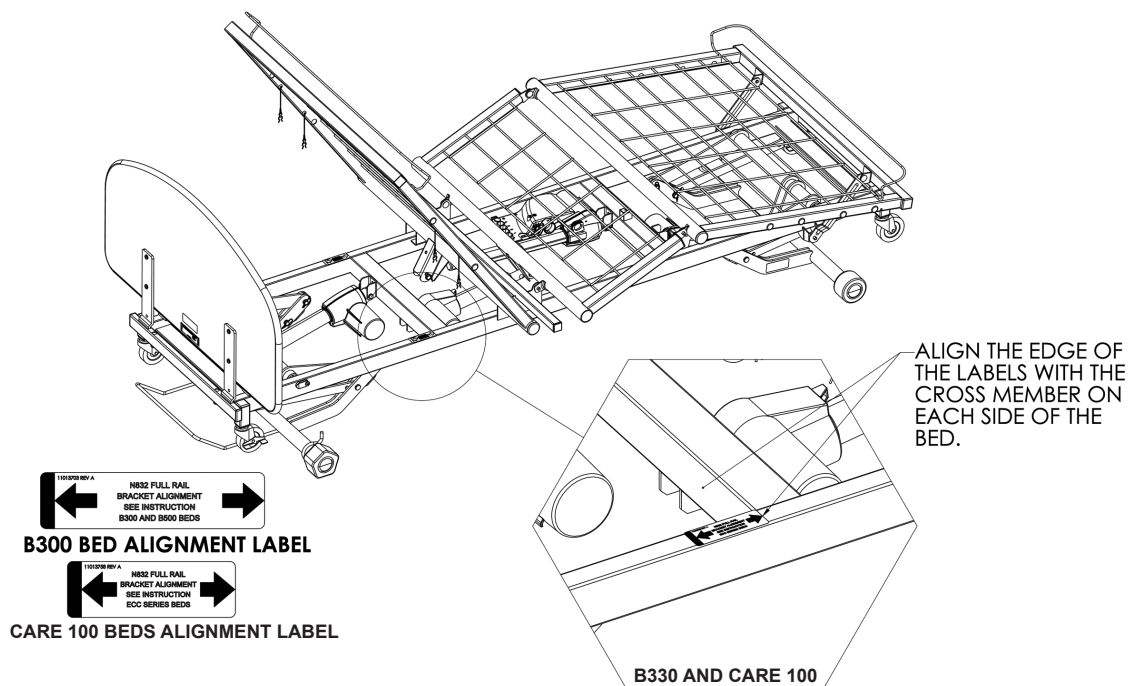

Figure 2
2. Depending on the bed model, locate the frame cross member at the head end of the bed frame as shown in Figures 2 and 3 (page 8). The orientation of the alignment labels will depend on bed model. If you are unsure of the bed model locate the Product ID label, usually located on the left side of the bed frame.
3. Once the proper cross member has been located, locate the proper alignment labels for the model of bed you have. See Figure 2 (page 7) or Figure 3 for clarification. Apply the label according to the illustrations. When complete, there should be an alignment label on each side of the frame, aligned with the cross member located closest to the head panel.